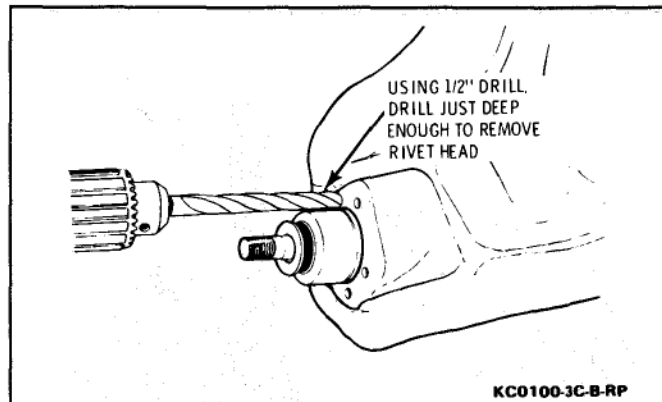

Figure 8 – Drilling Upper Control Arm Ball Stud Assembly Rivet Heads
10. Drill off rivet heads, using 1/2-inch drill bit. Refer to Figure 8.